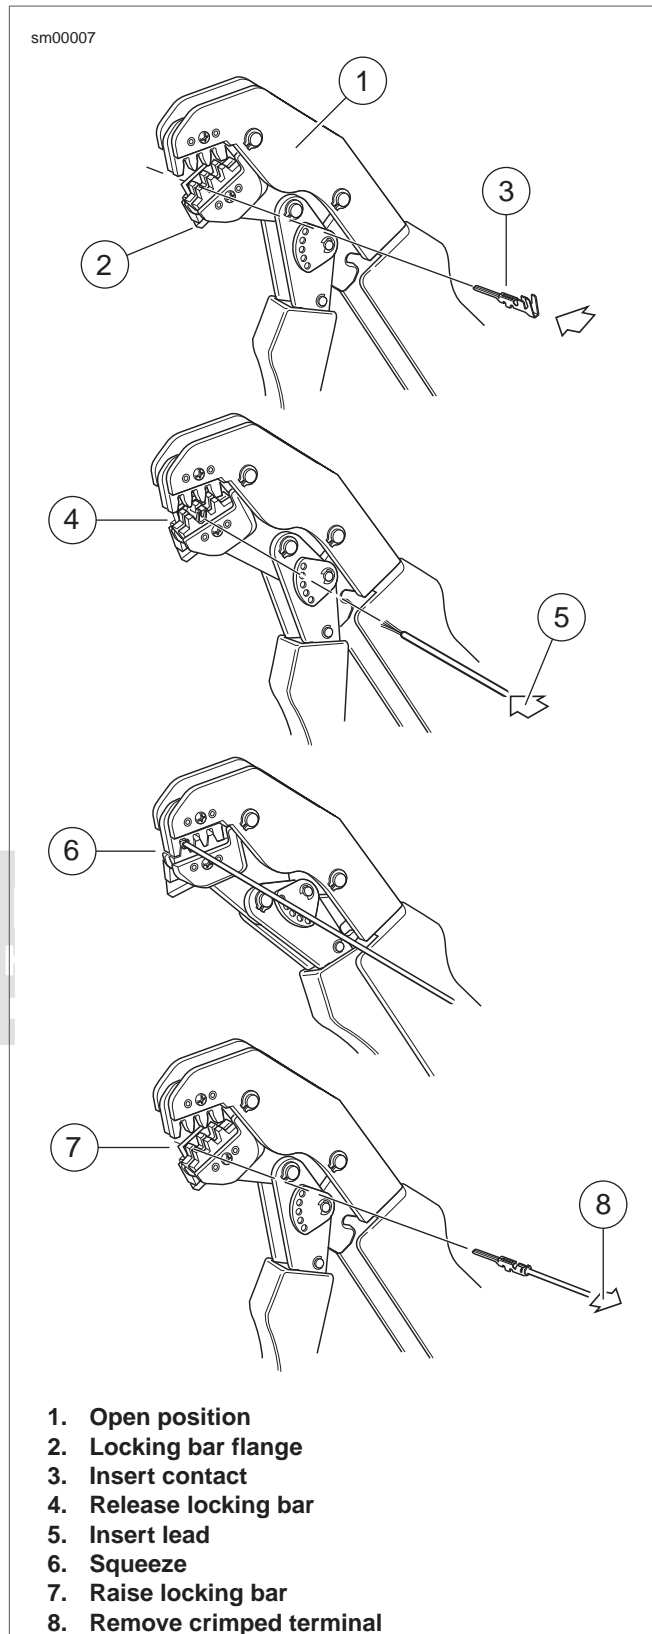

Figure A-6. AMP Multilock Connector: Terminal Crimping Procedure
1. See Figure A-6. Squeeze the handles to cycle the AMP MULTILOCK CRIMPER (Part No. HD-41609) to the fully open position (1).
2. Raise locking bar by pushing up on bottom flange (2).
3. See Figure A-6. With the insulation crimp tail facing upward, insert terminal (pin or socket) (3) through the locking bar, so that the closed side of the terminal rests on the nest of the crimp tool.
4. Release locking bar to lock position of contact (4). When correctly positioned, the locking bar fits snugly in the space at the front of the core crimp tails.
5. Insert stripped end of lead (5) until ends make contact with locking bar.
8. Raise up locking bar (7) and remove crimped terminal.